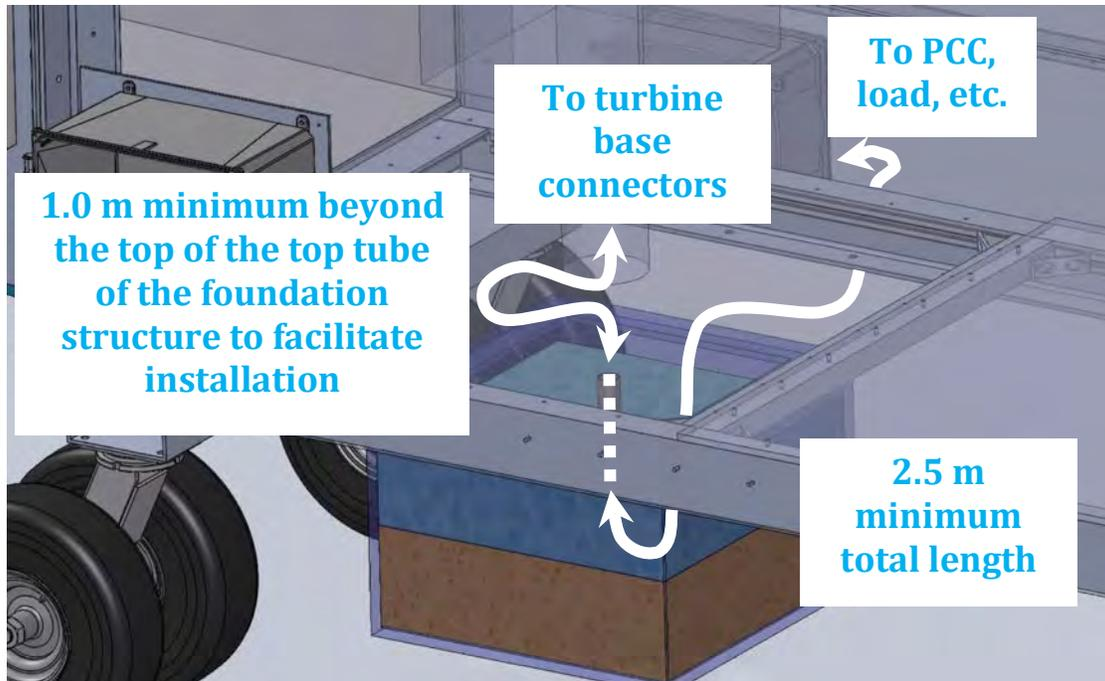

Figure 9. Electrical cable from the wind turbine base through the foundation to the point of common coupling and load. *Image created by Jason Roadman, NREL*
- The installation of the electrical cable between the turbine and the electrical components outside the tunnel (e.g., point of common coupling [PCC], load) must be made through the top tube of the foundation structure. To facilitate this connection without placing connectors in the water, the student-provided cables from the outside electrical components to the turbine base must be installed through the foundation structure top tube during structure installation into the water/sand tank. At least 1 meter (m) of extra cable must be available above the top of the foundation structure top tube to facilitate installation of this cable through the stub and to the connectors in the turbine tower base during turbine installation (see Figure 9). The connectors at the turbine base must be able to support the weight of the cable that passes down through the stub and into the water. Those connectors must always be kept dry, including during installation.
- Cables must be continuous and unbroken in the vicinity of the tank. No connectors may be in any position that would allow them to be submersed (Figure 9).